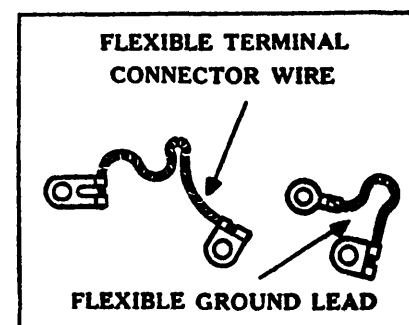

Fig. 12
4. Inspect both the flexible terminal connector wire and the flexible ground lead for signs of broken strands (see Fig. 12). Our engineers recommend that these two wires be replaced with new genuine Delco-Remy (or Auto-Lite if an Auto-Lite unit) wires, each time a distributor is overhauled.